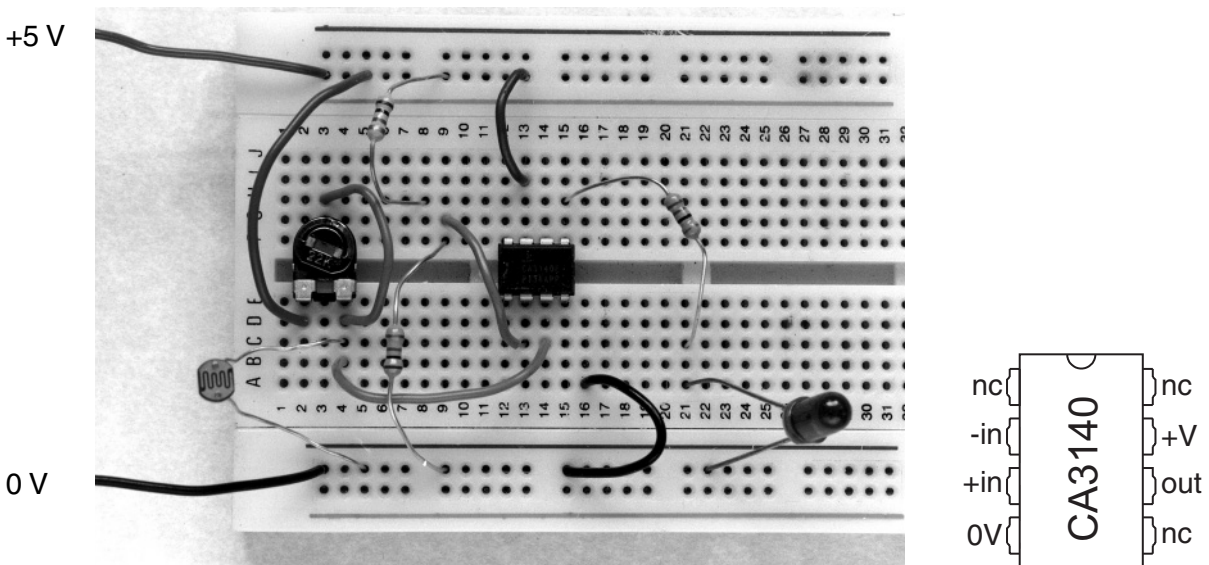

Fig. 10
- (b) Before manufacture circuits of this type are often tested using a breadboard. Fig. 10 shows a breadboard layout of the circuit and the IC pinout diagram.